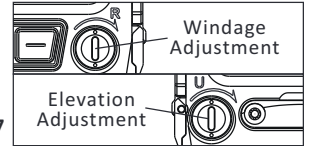

Fig 7
2) The elevation adjustment is on the right side of the sight (battery side). The windage adjustment is on the left side of the housing (button side). Adjustment can be performed using the supplied tool (see Fig7).